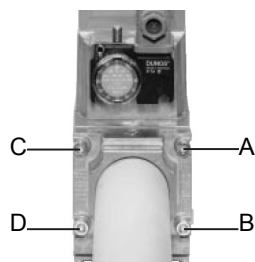
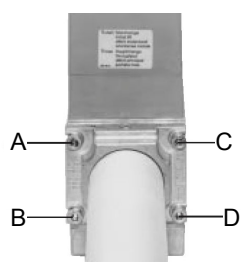

Fig. 7
Fig. 8
1. Loosen screws A and B **do not** unscrew (Fig. 7 - Fig. 8).
2. unscrew screws C and D (Fig. 7 - Fig. 8).
3. Remove MultiBloc between the threaded flanges (Fig. 8).